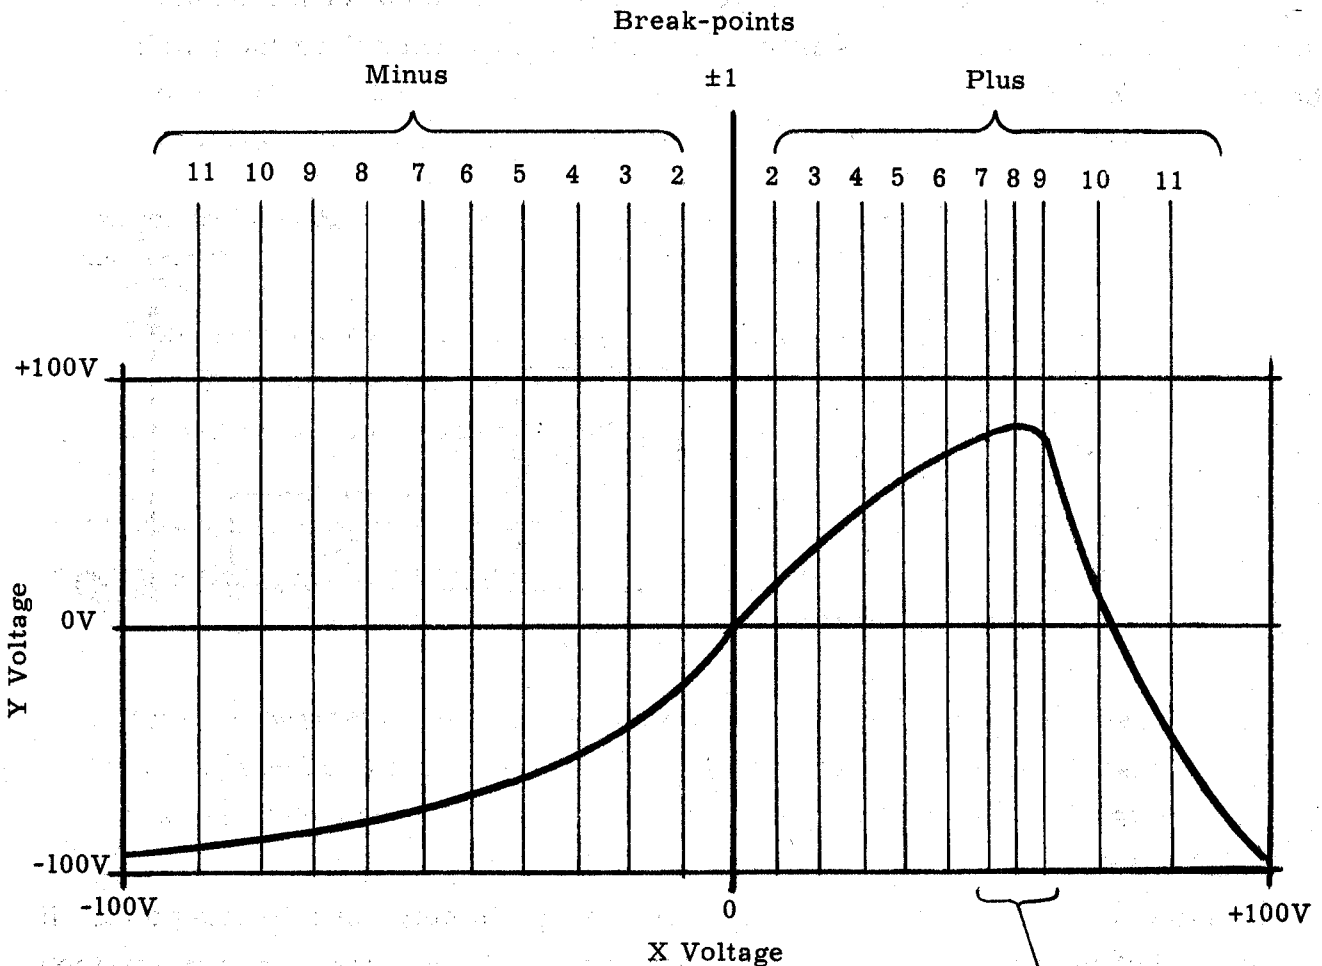

Figure 2
1. Draw a graph similar to Figure 2 showing the desired functional relationship. Choose X and Y scale factors so that both variables remain with the range of -100 to +100 volts, and the curve passes through $X = 0, Y = 0$. Select 10 points on the curve to each side of $X = 0$ which best approximate the curve when connected by straight lines. These are the break-points and the X values at these points are the break voltages. Make a table of X and Y values at these points.